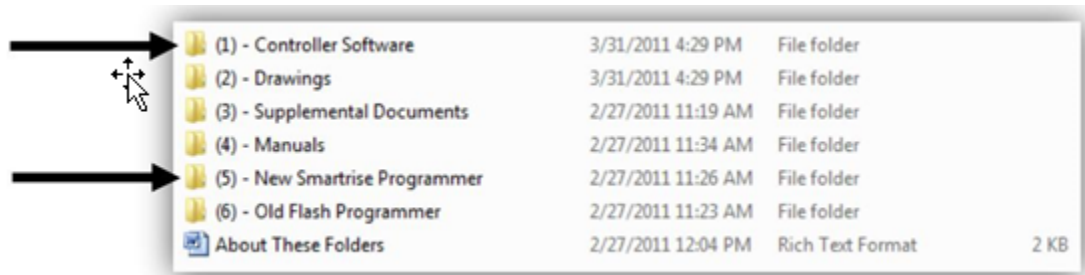

Figure 14: Programmer and Software Files
1. Double click on (5) New Smartrise Programmer Folder in the software package. See Figure 14.
1. Once the Smartrise Programmer is installed, navigate back to the list of the software package folders and double click on the (1) - Controller Software folder. See Figure 14.
- a. If the software menus display (see Figure 14), go to step 5.
5. Double click (1) - Controller Software. See Figure 14.